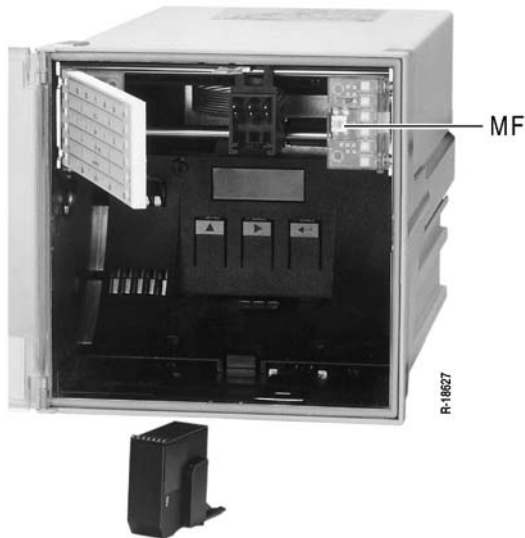

Figure 8 Placing the color head (scale version)
Scale version (see Figure 8)
6. Place the color head as shown in Figure 8.